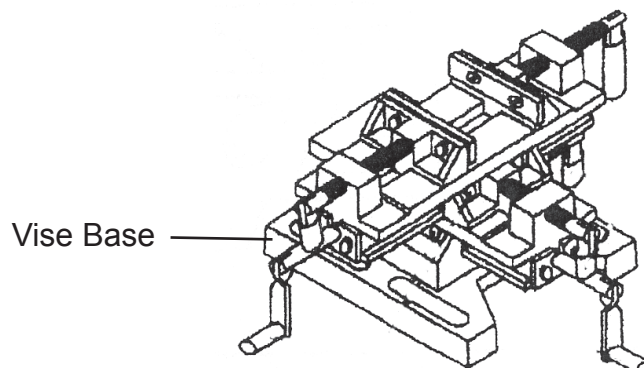

Figure 1
2. Secure the mount base of the Vise in the center of the drill press worktable, using appropriate hardware, as provided with or explained in the manual for the milling/drilling machine (hardware not included). Make sure that the hardware used solidly secures the vise and does not interfere with the X/Y adjustment of the vise. **See Figure 1.**